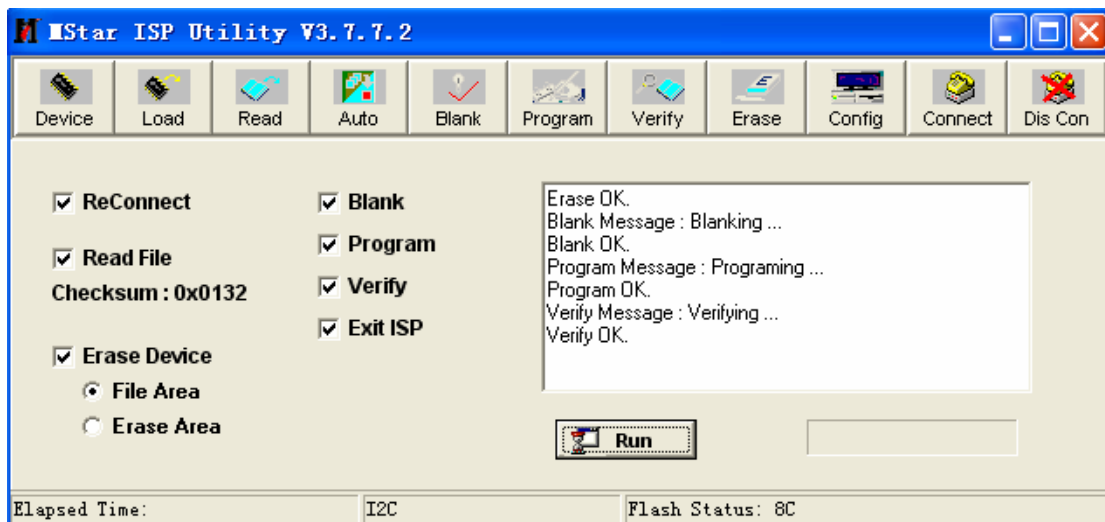

Fig.7
Step 5: When appear Verify OK, writer finished as shown Fig.7